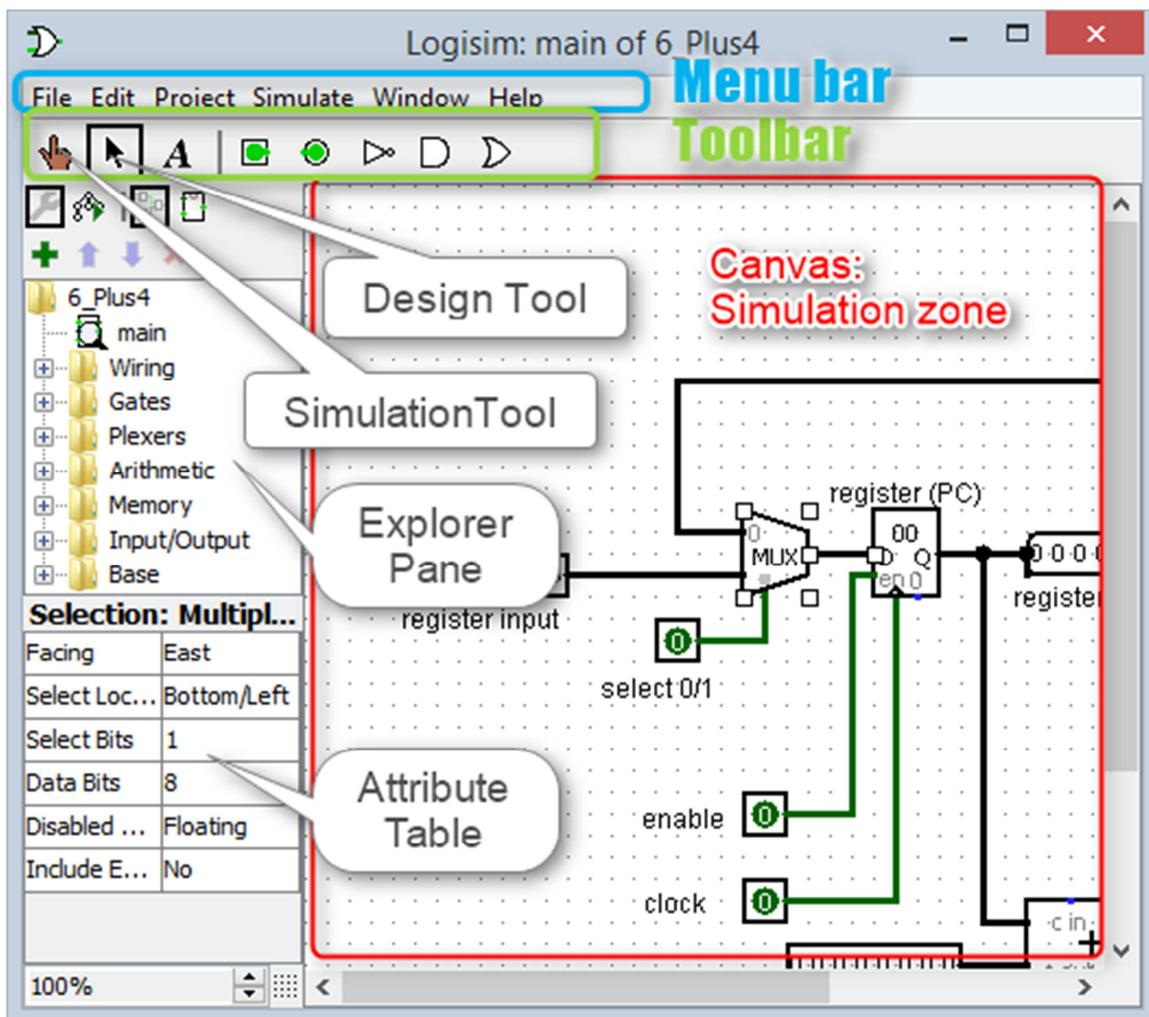

Figure 10.1: Logisim Main Window Layout
- To use the edit mode, select the **Design** tool (Figure 10.1).
Select the Simulation Tool (Figure: 10.1) so you can test the circuit. You can toggle the value of an input pin by clicking on it. Note that the values of all subsequent wires change instantly.